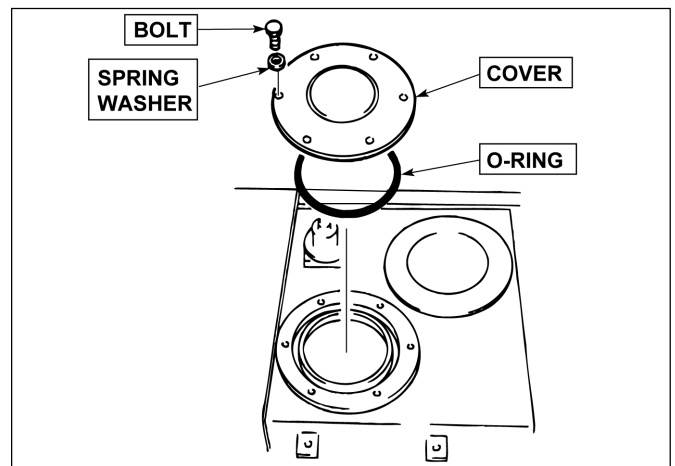

FIGURE 4.16D
- b. Slowly remove the six mounting bolts from the hydraulic return filter cover plate. Cover is under pressure by the spring. See Figure 4.16D.
- d. Before replacing filter cover, replace "O"Ring. Order KOBELCO Part Number ZD11G20000. See Figure 4.16D.